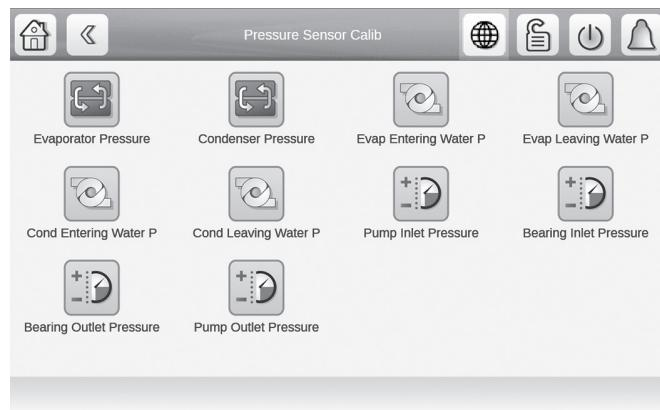

Fig. 33 – Pressure Sensor Calib Screen, Page 1
1. Go to **Main Menu → Maintenance Menu → Pressure Sensor Calib**. See Fig. 33.